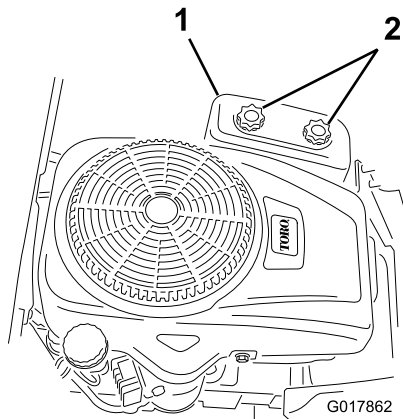

Figure 28
4. Remove the air-cleaner cover by unscrewing the 2 knobs (Figure 28).
- Install the air-cleaner cover, and tighten the 2 knobs (Figure 28).